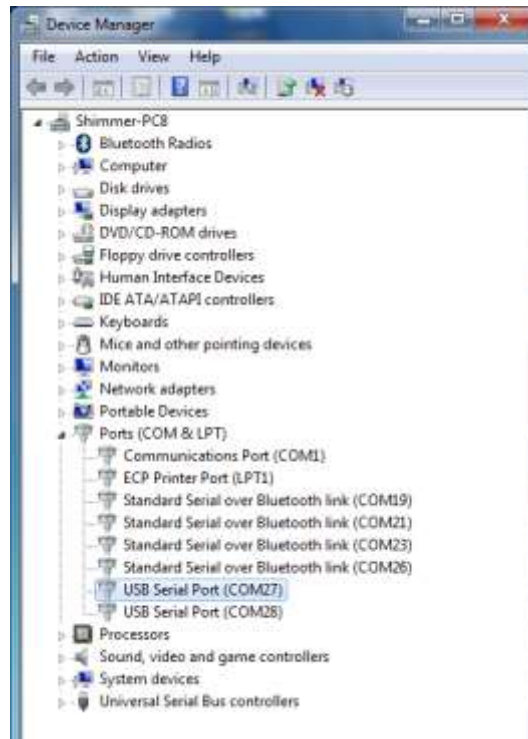

Figure 3-6 Device Manager showing Dock USB Serial Ports
- IV. Next, under the *Ports (COM & LPT)* entry in the *Device Manager*, you should see two new *USB Serial Port* entries, each with an associated COM port number, as shown in Figure 3-6. The *USB Serial Port* with the lowest number is the *Programming Port*.